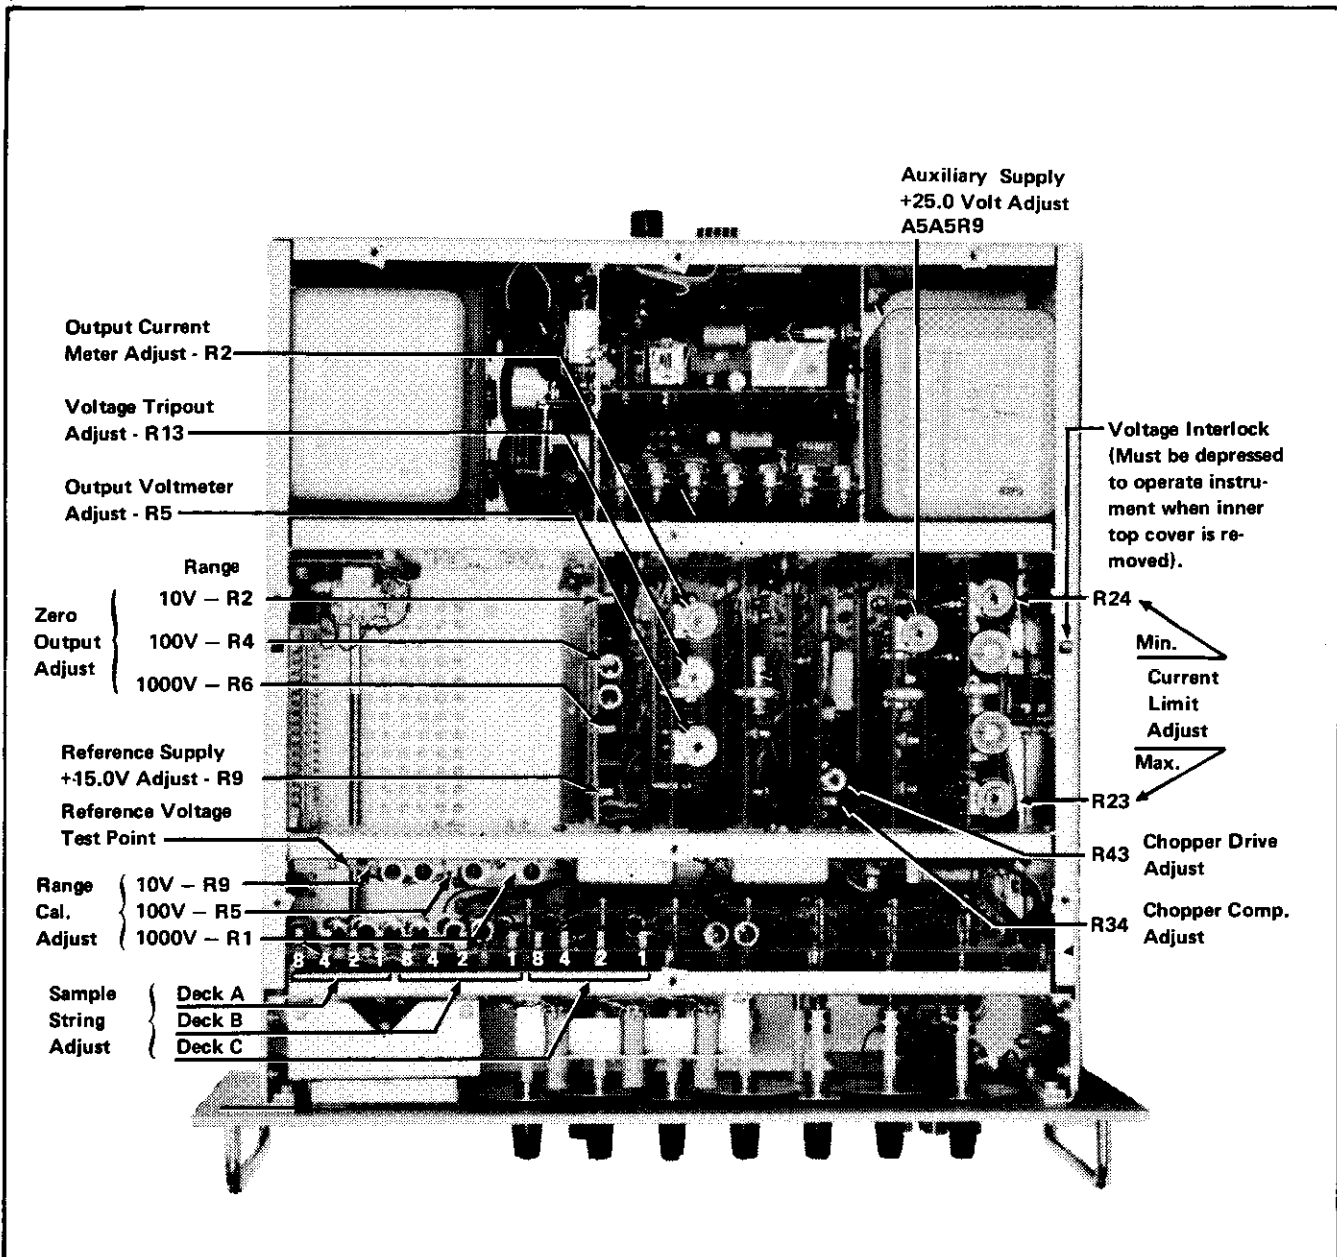

Figure 4-2. LOCATION OF ADJUSTMENTS
- b. Referring to Figure 4-2, adjust A5A5 R9 until the Model 895A indicates 25 volts,  $\pm 10$  millivolts.
- c. Referring to Figure 4-2, adjust R23 for a 60 milli-ampere indication on the external meter.
i. Set the RANGE and decades on the 332B as listed in Table 4-9. Adjust the 895A to the 10.0 00 00 volts. Adjust the range calibration pots (CAL) shown in Figure 4-2 as required.